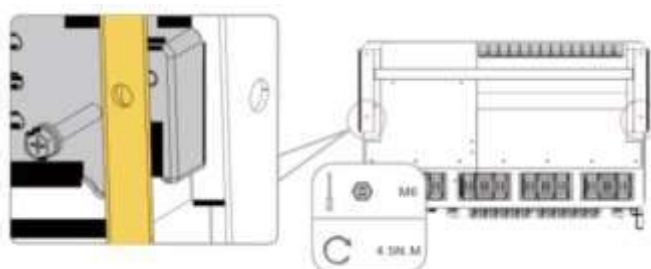

Fig. 4-14 Fix the inverter
- 7) Fix the inverter with two M6×35 screws (Fig. 4-14).
- 8) Fix the inverter with screws (Fig. 4-14).